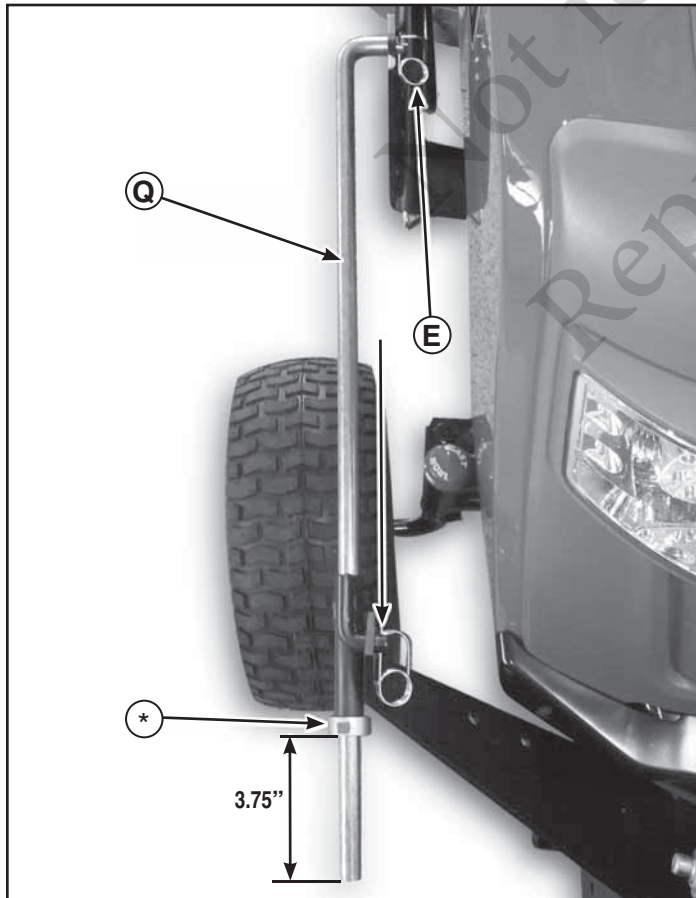

Figure 14
3. Install lift rod assembly (Q, Figure 14) and secure with safety clips (E).
4. Using lift arm, fully raise snowthrower off the ground into locked position. Distance from the collar to end of rod should be 3.75". If not, lower the snowthrower to the ground and adjust the lifting collar (*, Figure 14).